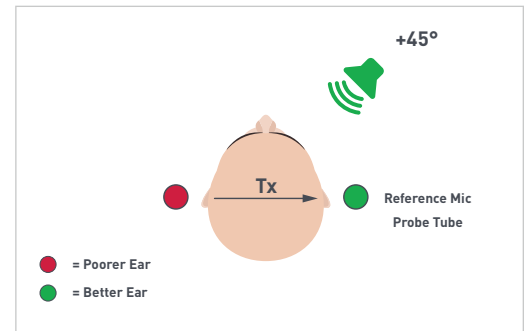

Figure 8
**Step One:** Measure the REAR response for the better ear side: [Fig. 8]